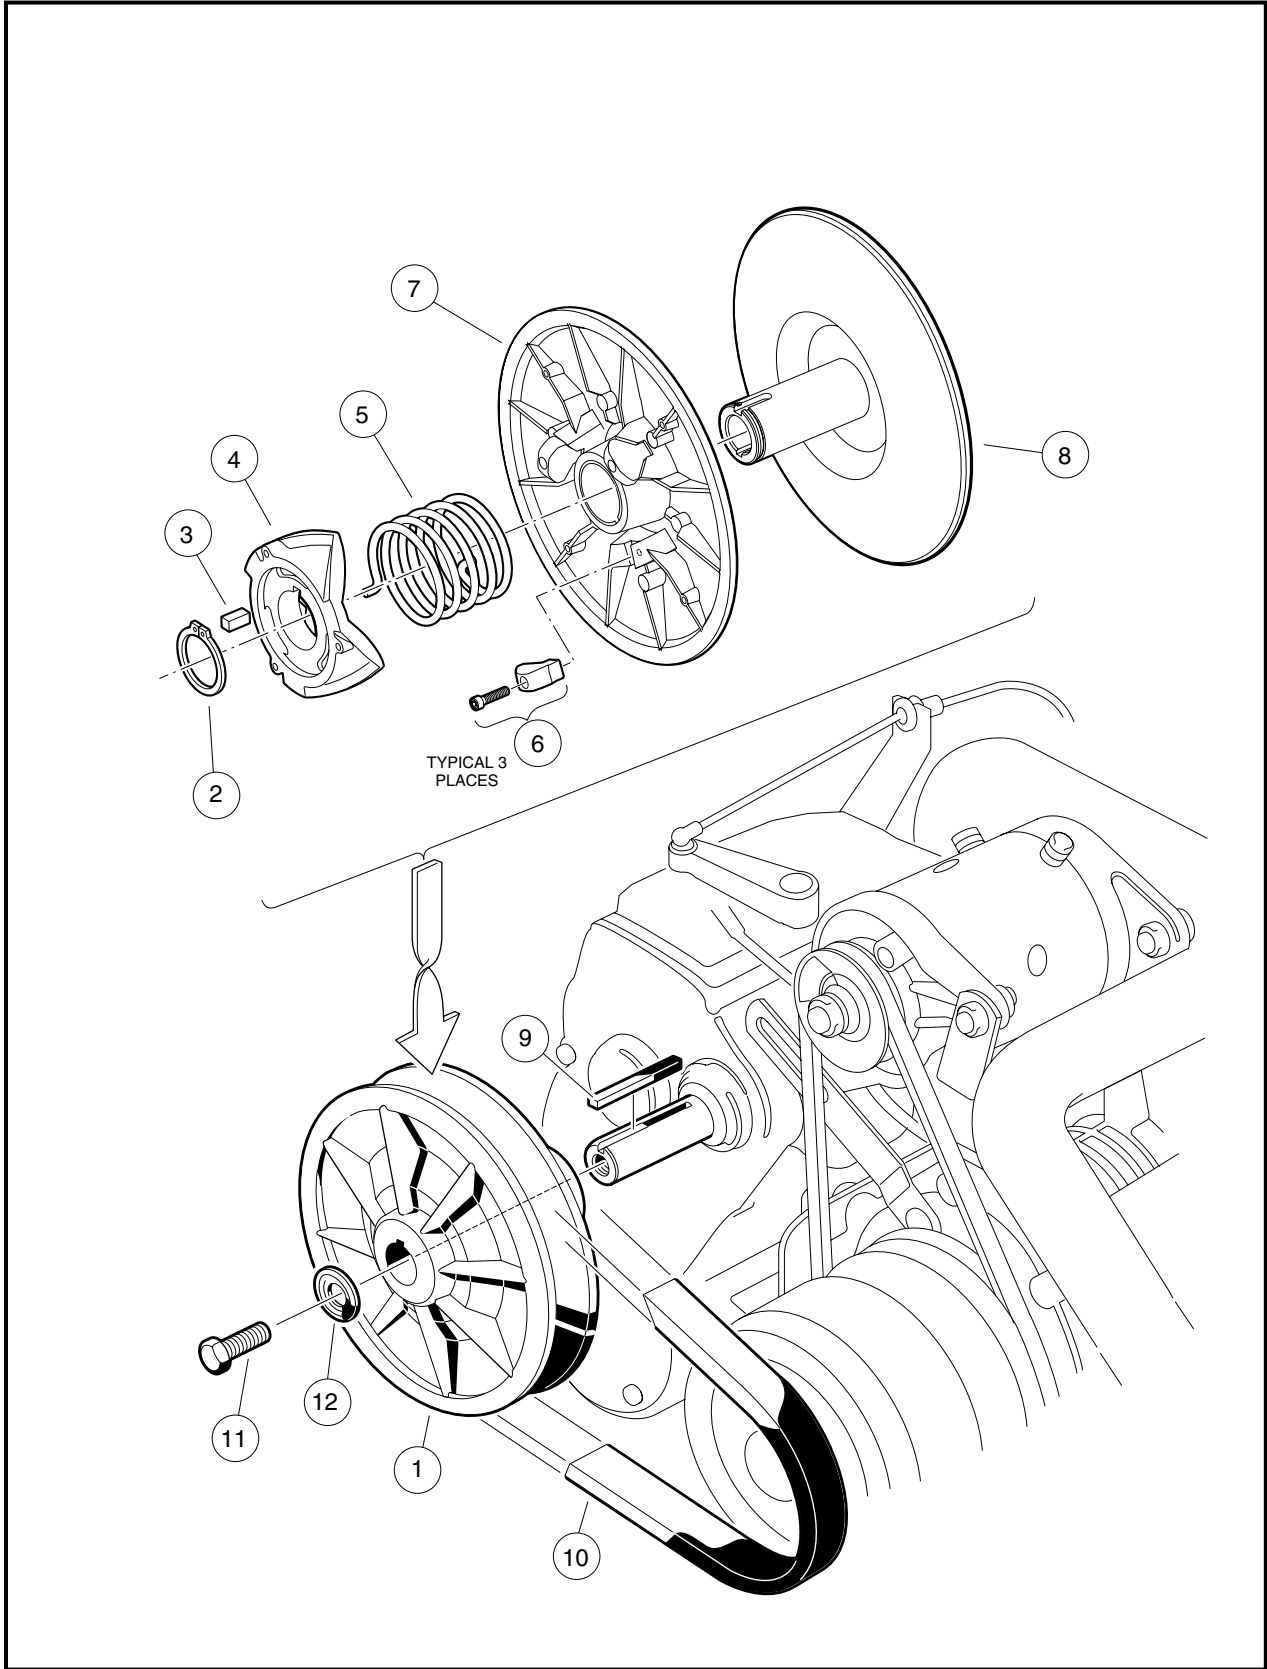
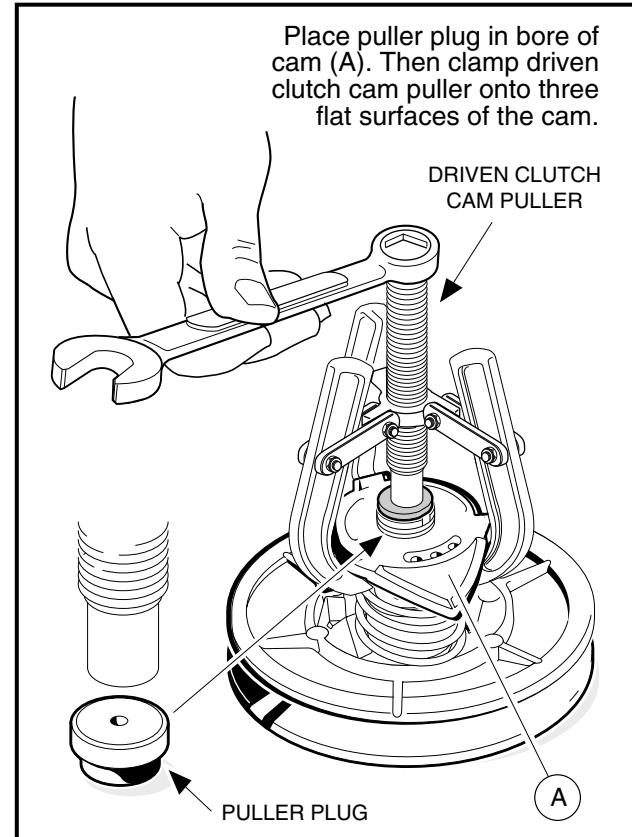

Figure 17-16 Driven Clutch Assembly
Figure 17-18 Driven Clutch Disassembly
6. Remove the bolt (11) and mounting washer (12) from the clutch shaft (**Figure 17-16, Page 17-15**).
8. Leave the key (9) in the keyway (**Figure 17-16, Page 17-15**).
2. Insert a puller plug (CCI P/N 1014507) (**Figure 17-18, Page 17-16**) into the shaft bore and use a driven clutch cam puller (CCI P/N 1014508) to remove the cam (4) from the fixed face shaft (8). Retain the key (3) (**Figure 17-16, Page 17-15**).
3. Remove the spring (5) (**Figure 17-16, Page 17-15**).
4. Slide the moveable face (7) off the fixed face shaft (8) (**Figure 17-16, Page 17-15**).
1. Inspect the cam (4) for excessive wear. Replace it if necessary (**Figure 17-16, Page 17-15**).
2. Inspect the drive buttons (6) for excessive wear. Replace if necessary. To remove the drive buttons, remove the socket-head cap screws and then the buttons (**Figure 17-16, Page 17-15**).
1. Place the three drive buttons (6) in position. Apply one drop of Loctite® 222 to each of the socket head cap screws and then install and tighten them to 8 in-lb (0.9 N-m) (**Figure 17-16, Page 17-15**).
2. Slide the moveable face assembly (7) onto the fixed face shaft (8).
3. Place the end of the spring (5) into hole in the moveable face assembly.
4. Install the key (3) into the keyway of the fixed face assembly (8) shaft.
5. Holding the cam (4) in position for assembly on the shaft, install the other end of the spring (5) into the center spring hole of the cam. Rotate the cam until the keyway is aligned with the key (3) on the fixed face assembly, and then start the cam onto the shaft approximately 1/4 to 3/8-inch (6.3 to 9.5-mm).
- 5.1.3. Install the retaining ring (2) (**Figure 17-16, Page 17-15**). See following NOTE.
1. To install the driven clutch, reverse the removal procedure. Make sure that the washer (12) is mounted with the flat portion of the washer against the driven clutch as shown (**Figure 17-16, Page 17-15**). Secure with a *new* bolt (11). **See following NOTE.**